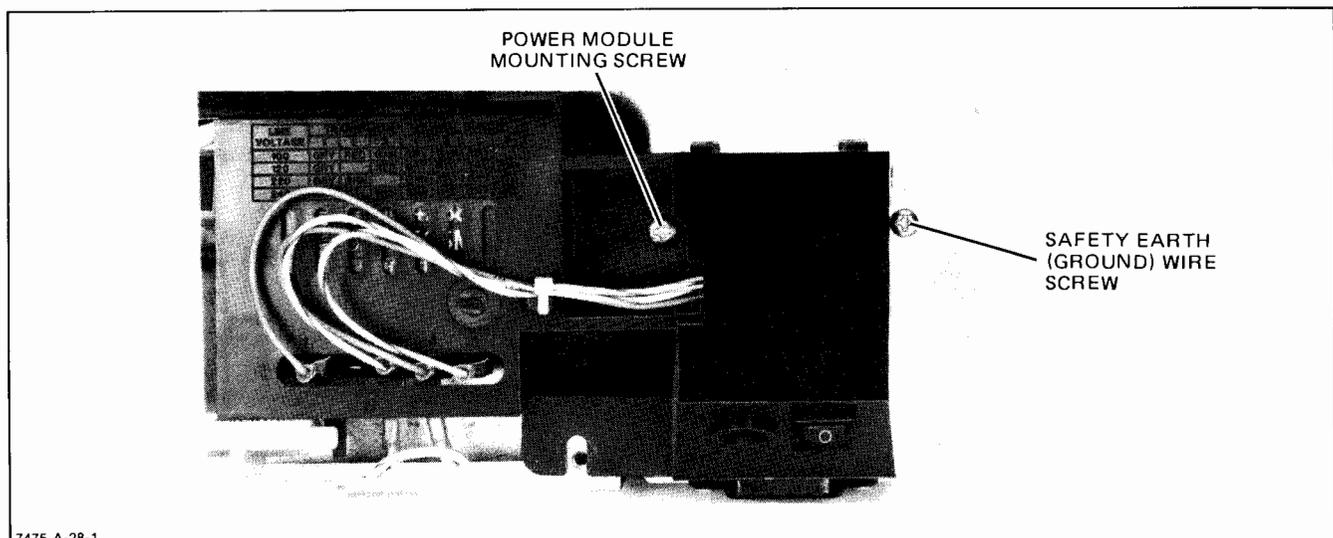

Figure 6-20. Power Module Removal
- c. Remove the safety earth (ground) wire screw at the left end of the power module. See Figure 6-20.
- f. Remove the screw in the power module. See Figure 6-20.
To protect against possible electrical shock, Be sure to replace the safety earth (ground) wire and tighten the screw securely. See Figure 6-20.